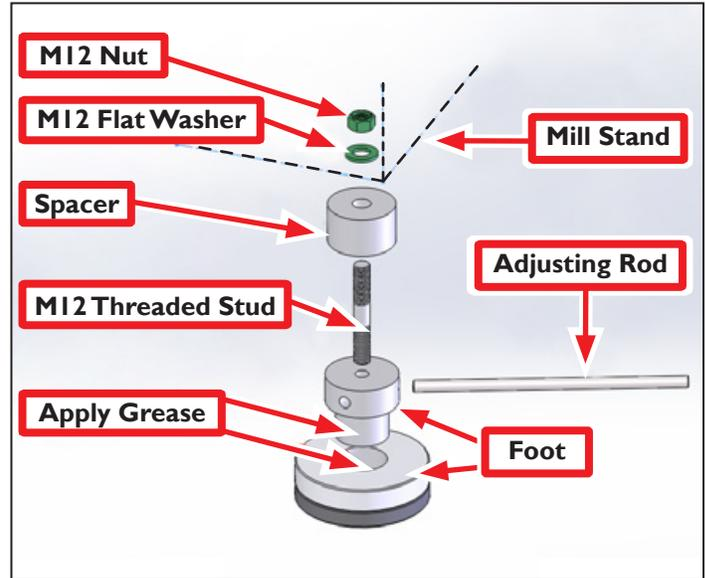

Figure 2
1. Apply multi-purpose grease to locations indicated in **Figure 2** and join parts together.
2. Insert one M12 Threaded Stud into each foot and slide on Spacer (see **Figure 2**).
3. Attach feet to Stand using assembly shown in **Figure 2**.
5. When Stand is in its final location, level Stand using a carpenter's level. Adjustments to feet are made using Adjusting Rod to increase or decrease height on each corner (see **Figure 2**).